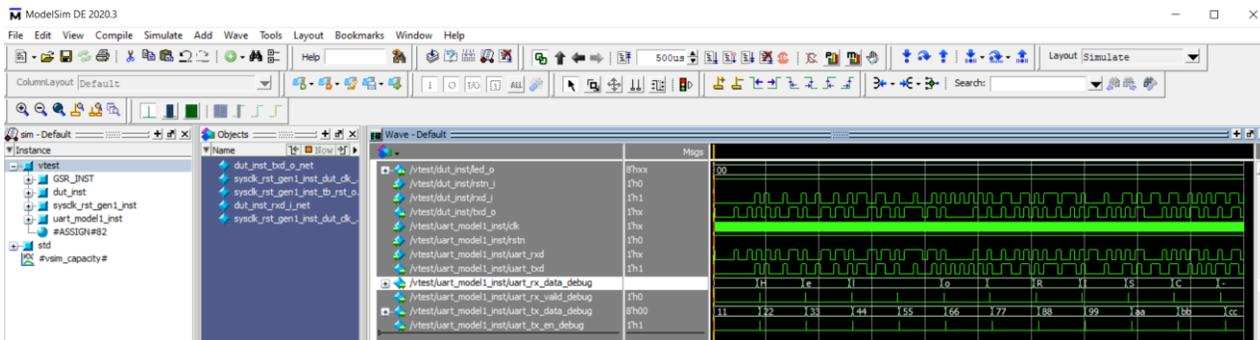

Figure 3.31. Waveform of Hello World Project
- ModelSim is launched running simulation for the SoC verification project. The corresponding waveform of the SoC verification project for the Hello World project is shown (Figure 3.31). Check the waveform.
The Hello World Project is designed to print some strings using a top-level UART port. The testbench instantiates a UART model to receive these data. Each byte (refer to `uart_rx_data` shown in Figure 3.31) can be checked using ASCII format. Meanwhile, this UART model also supports sending the data to Design Under Test (DUT). The data is stored in a text file and enabled by `STIMULUS_GEN` parameter.